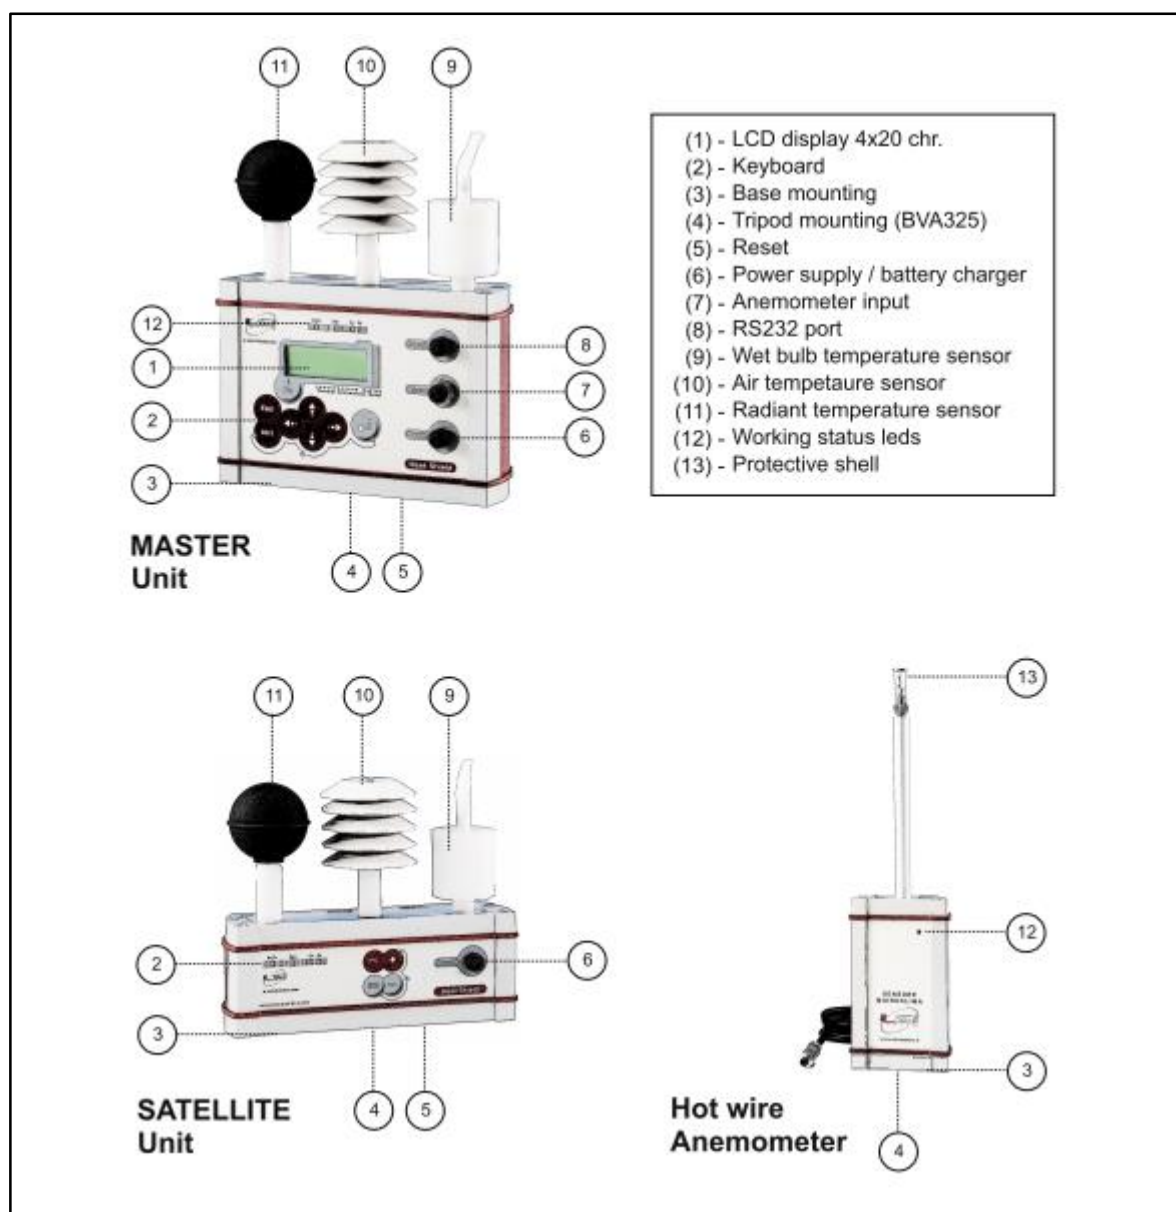

Fig. 1 – Instruments description.
Heat Shield MASTER displays the indexes calculated according to reference standards and the measurements acquired by sensors (9) (10) (11) (see Fig. 1), either those physically connected to the instrument and those received by any SATELLITE units connected by radio.